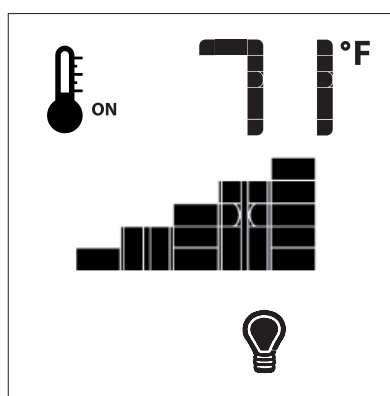

Fig. 17
The intensity of the output can be adjusted through six (6) levels. Use the Up/Down Arrow Keys (Fig.1) adjust the output level (fig. 17). A single "beep" will confirm reception of the command.